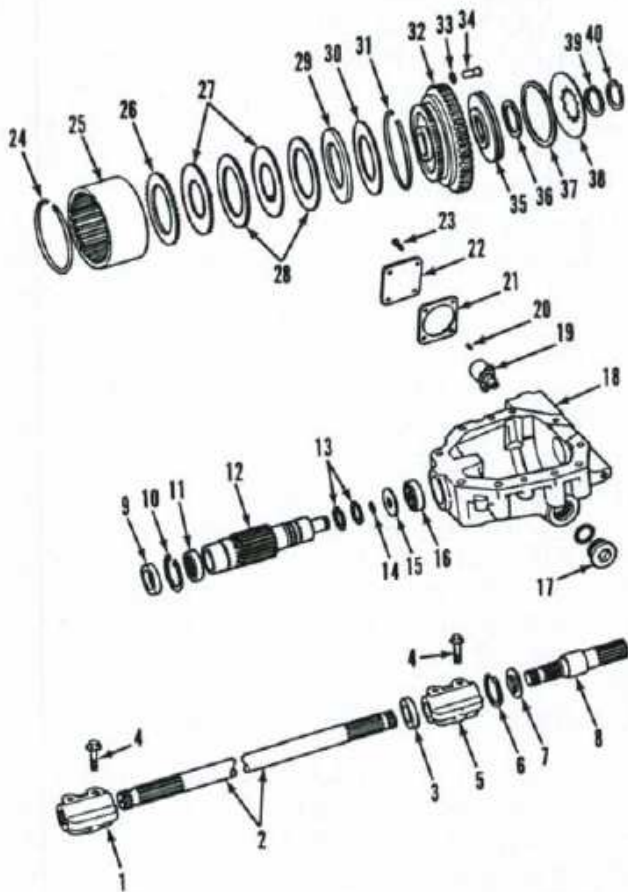

Fig. 31—Exploded view of front drive shaft and transfer case with electric/hydraulic multiple disc clutch used on some models.
Two types of transfer gearboxes have been used. One type is the mechanical shift (dog clutch) shown in Fig. 29. The other type is equipped with an electric/hydraulic operated multiple disc clutch (Fig. 31). The clutch is engaged by three Belleville springs when hydraulic power is switched OFF. When hydraulic power is switched ON, the piston collapses the Belleville springs and clutch is disengaged.
**18. R&R AND OVERHAUL.** To remove the transfer gearbox, first remove drive shaft shield and front drive shaft as in paragraph 16. Remove plug (17—Fig. 31) and drain oil. Disconnect electrical conduit pipe from union near solenoid cover, then remove the un-